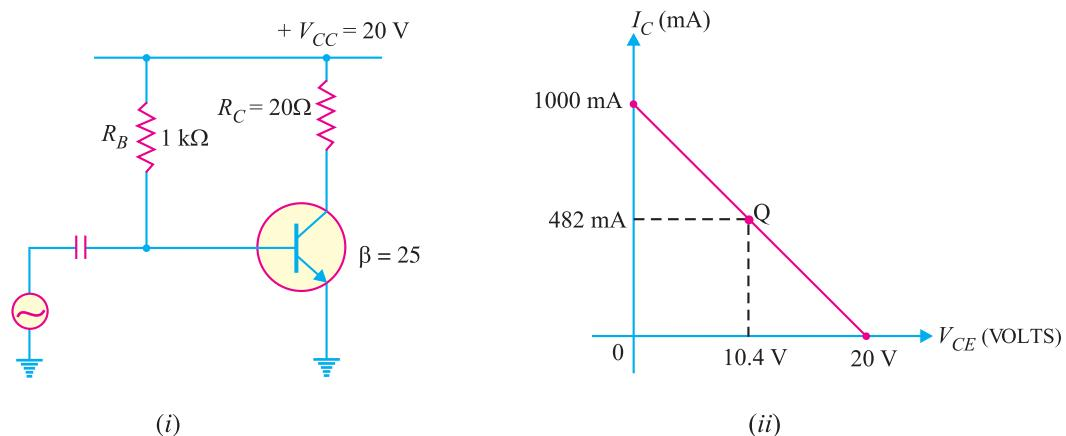

Fig. 12.7
**Example 12.7.** Calculate the (i) output power (ii) input power and (iii) collector efficiency of the amplifier circuit shown in Fig. 12.7 (i). It is given that input voltage results in a base current of 10 mA peak.
**Solution.** First draw the d.c. load line by locating the two end points viz.,  $I_{C(sat)} = V_{CC}/R_C = 20 \text{ V}/20 \Omega = 1 \text{ A} = 1000 \text{ mA}$  and  $V_{CE} = V_{CC} = 20 \text{ V}$  as shown in Fig. 12.7 (ii). The operating point  $Q$  of the circuit can be located as under :